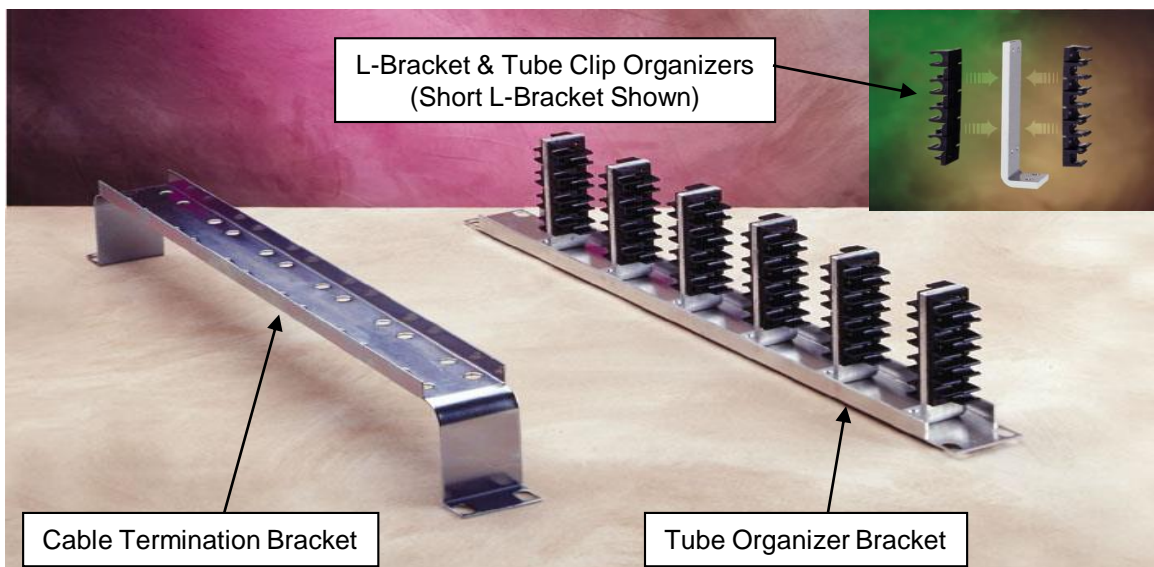

Figure 1
5.1 See Fig. 1 for Rack-Mount Tube Cable Termination Panel layout.